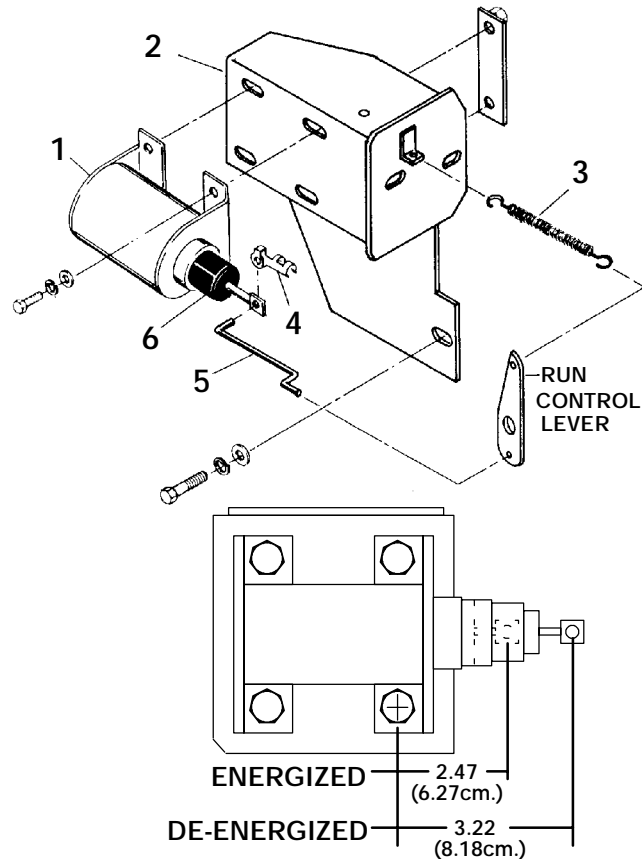

Figure 4-1. Fuel Solenoid Assembly
- a. Remove spring linkage from injection pump run lever (item 3, Figure 4-1).
- b. Disconnect wiring to solenoid. Remove clip (item 4) from linkage rod (item 5). Remove mounting hardware from solenoid and then remove solenoid.
- c. Install new solenoid and mounting hardware, connect wiring. Place ignition (Start-Run-Off) switch in the START position to energize solenoid. Check energized dimension as shown in Figure 4-1. Turn switch OFF. Check de-energized dimension. If energized dimension needs adjusting, loosen solenoid mounting bolts and move solenoid.
e. If the engine does not shut off when the fuel solenoid is de-energized, loosen the four (4) mounting bolts and move the solenoid toward the lever until it shuts off. Tighten the mounting bolts.